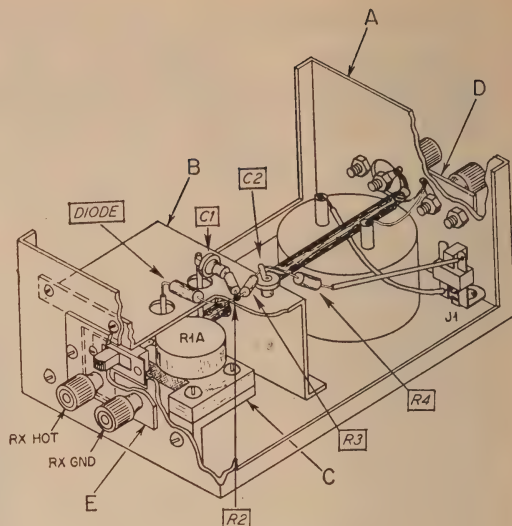

Fig. 9. Wiring view of the Antennascope-54.
An "exploded" view of the *Antennascope* is seen in Figure 9. The unit is assembled in a Bud CU-2105 Minibox (3"x4"x5"). An inner shield and shelf (B) is folded and drilled out as shown in Figure 10. The Minibox is also drilled and cut out as shown in this drawing. Note the irregular cut-out in the left-hand view (A) which clears the binding posts (Rx) and the range switch, Sw1.